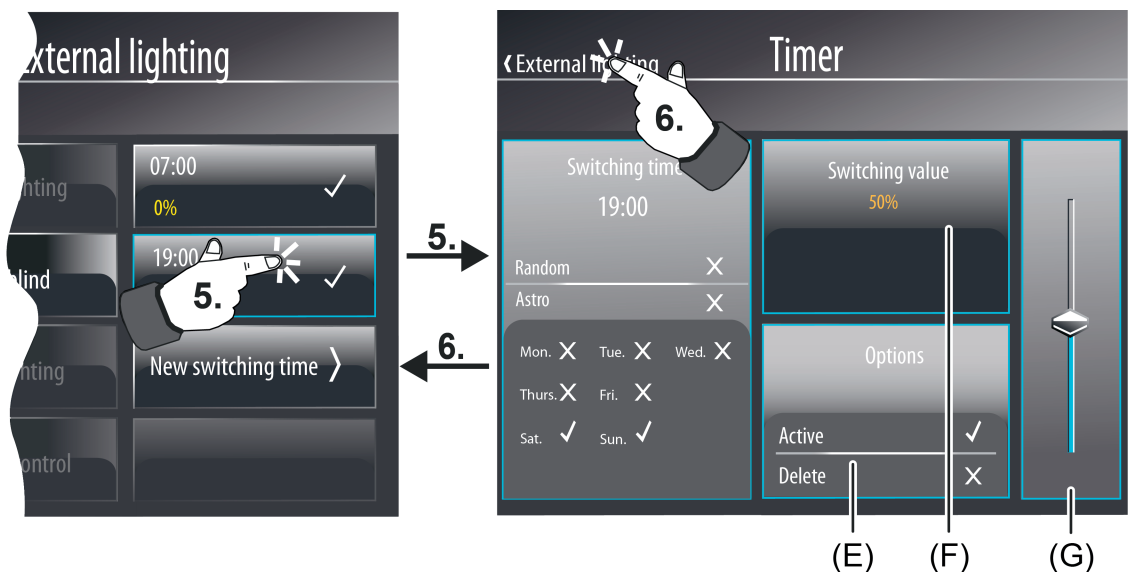

Figure 87: Example of a configuration page for switching times (right) - Data type timer switch channel "1-byte value"
With the data types "value" (figure 87), however, the display area is only characterised with a status value (F). If this display area is pressed long (approx. 1 second), the device displays an on-screen keyboard. A new switching value can be preset directly using this keyboard. Alternatively, new switching values can be preset by the value slider in the operating area (G).